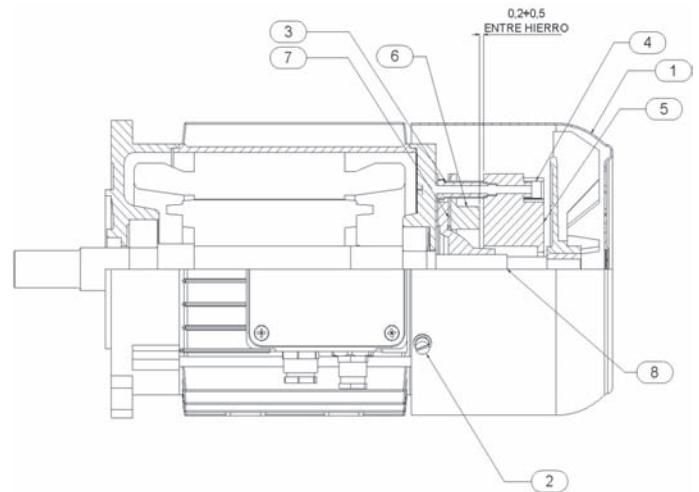

Figure 10, Two-speed brake motor, ABK051
The procedure for resetting the air gap, figure 10, is as follows:
It is advisable to replace the brake disc when its thickness falls below 3,5 mm. For its replacement, the procedure is as follows, figure 10:
- Remove the protective cover for the brake (1) and the fan, by removing the bolts (2). The brake is now visible.
- Unscrew and remove the nuts (4).
- Carefully remove the magnet (5) and the free yoke (6), to prevent damage to the cable connecting it to the motor.
- Remove the disc (7). Clean and de-lubricate the friction surfaces and the toothed area of the motor shaft (8).
- Check that the new disc (7) does not contain any impurities on the toothed cube, and then attach it to the motor shaft. (8). The correct assembly position is shown in figure 10.
- Check that the part has no difficulties with axial movements. Insert the free yoke (6) and the magnet (5).
- Screw the bolts (4) and adjust the air gap as described above.